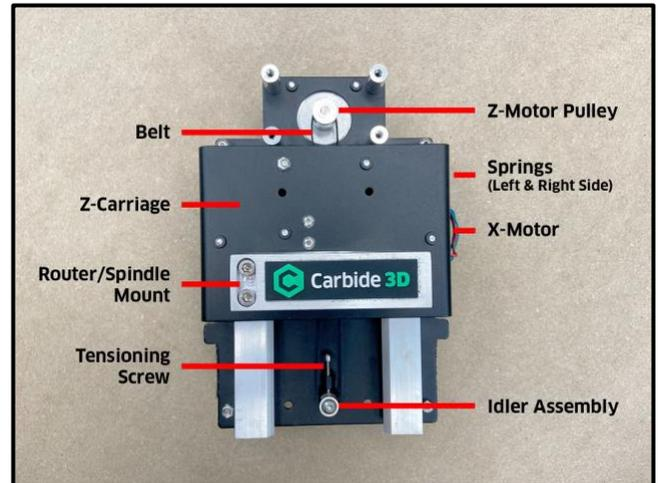

Figure 6
1. Separate the Z-carriage from the X-carriage. *Fig. 6.*